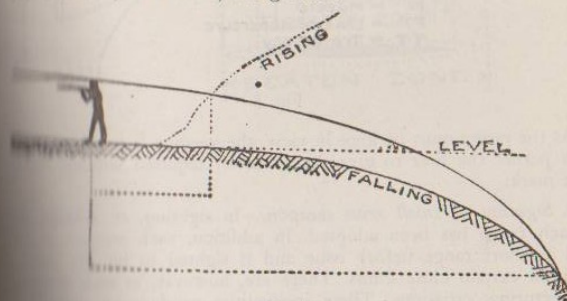

FIG. 7.
- 4. The nearer the slope of the ground conforms to the angle of descent of the bullet (Fig. 7).